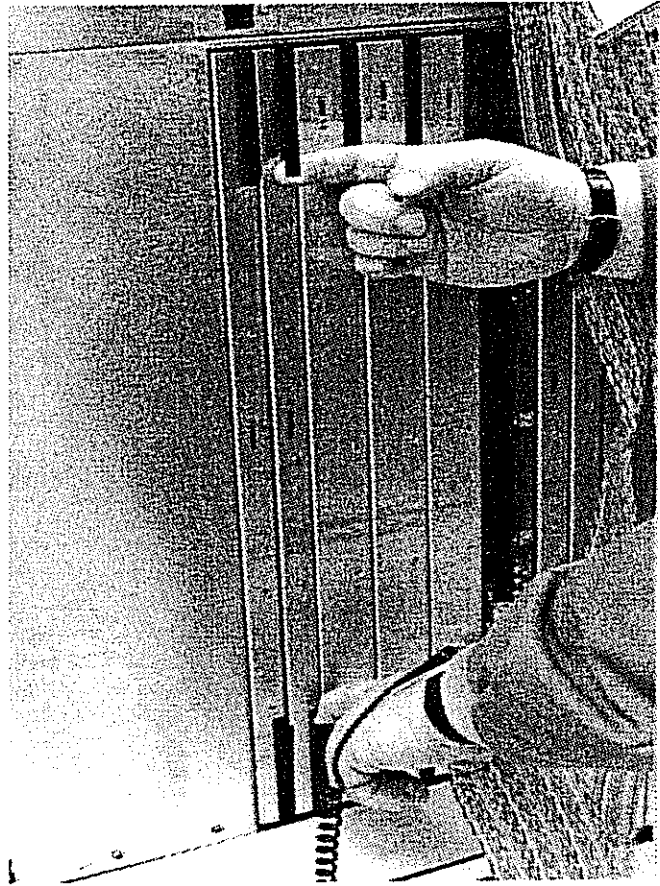

Figure 7-16. Removing the CRAY Y-MP EL CPU Board
5. Grasp the two extraction levers on the front top and bottom of the appropriate board; push up on the upper lever while pushing down on the lower lever. Refer to Figure 7-16.